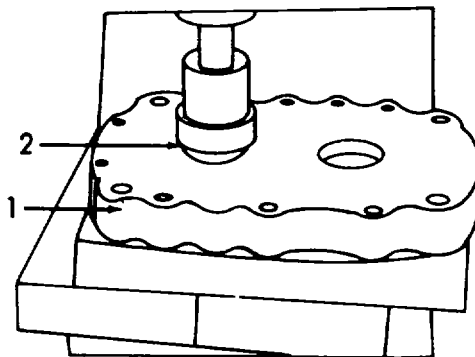

Figure 3-34. Oil Seals, Installation.
- (1) Inspect for missing or damaged hardware.
- (2) Inspect bearings for signs of corrosion and pitting.
- (3) Inspect seals for scoring and lack of pliability.
- (4) Inspect rotor lobes for scoring, burrs, and cracks.
- (5) Inspect rotor shafts for burrs, wear, peeling, and cracks.
- (6) Inspect housing and end plates for burrs, scoring, rust, corrosion, and cracks.
- (7) Inspect gears for damage, wear, and chipped teeth.
f. Assembly. (Refer to figures 3-34 through 3-43).
- (1) Refer to figure 3-34 and use wooden blocks to support the end plate (1) finished side up on arbor press.
- (2) Start the oil seal (2) straight into the bore with sealing edge facing down.
- (3) Place the short end of oil seal remover and installer into the oil seal (2) and press seal into the plate.
- (4) Repeat steps (1) through (3) for the rest of the oil seals on both plates.